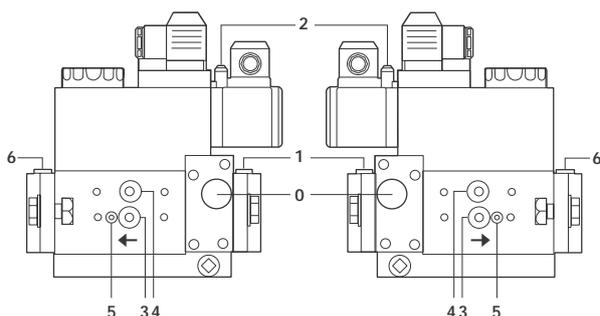
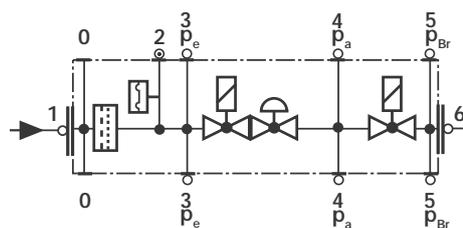

Fig. 48
Fig. 49
- Clean and examining the gas filter cartridge, if necessary replace it (Fig. 48 on).
- Change the filter if the pressure difference between pressure connection 1 and 3 (Fig. 48-Fig. 49) is  $Dp > 10$  mbar.
- Change the filter if the pressure difference between pressure connection 1 and 3 (Fig. 48-Fig. 49) is twice as high compared to the last check.